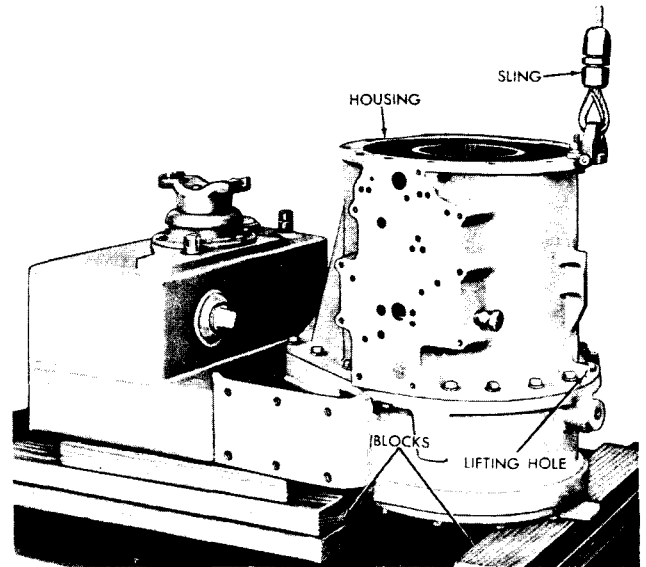

Fig. VII-23. Positioning transmission, rear downward
(1) Hoist the transmission assembly and position it, rear downward, on blocks (fig. VII-23).